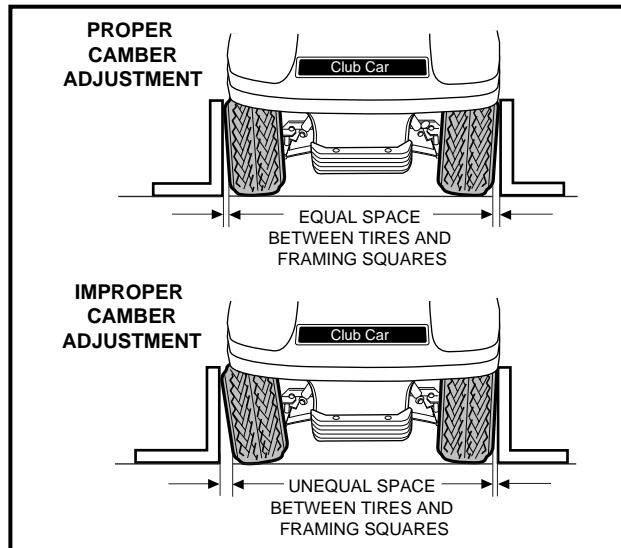
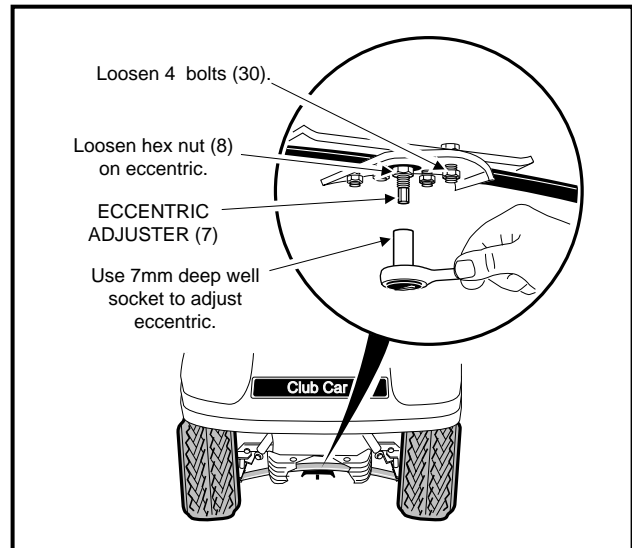
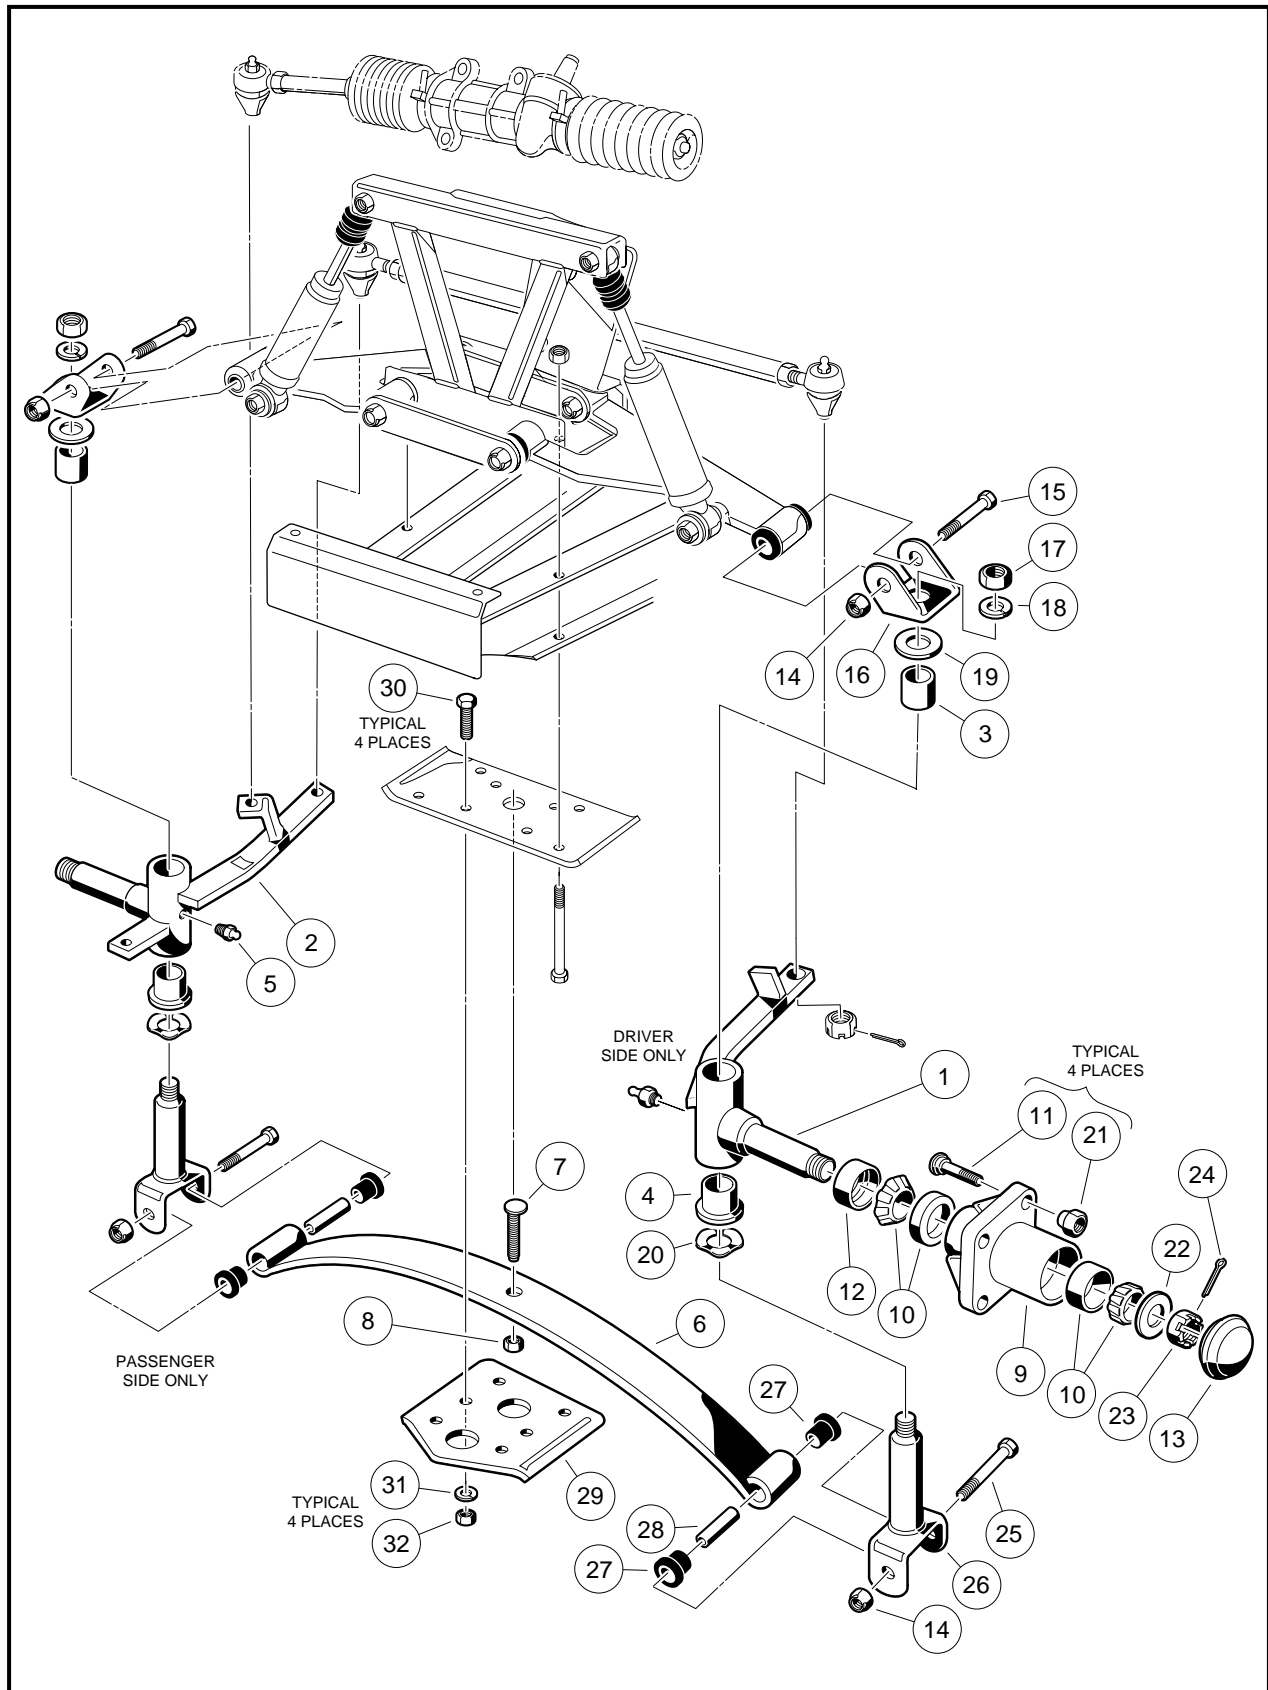
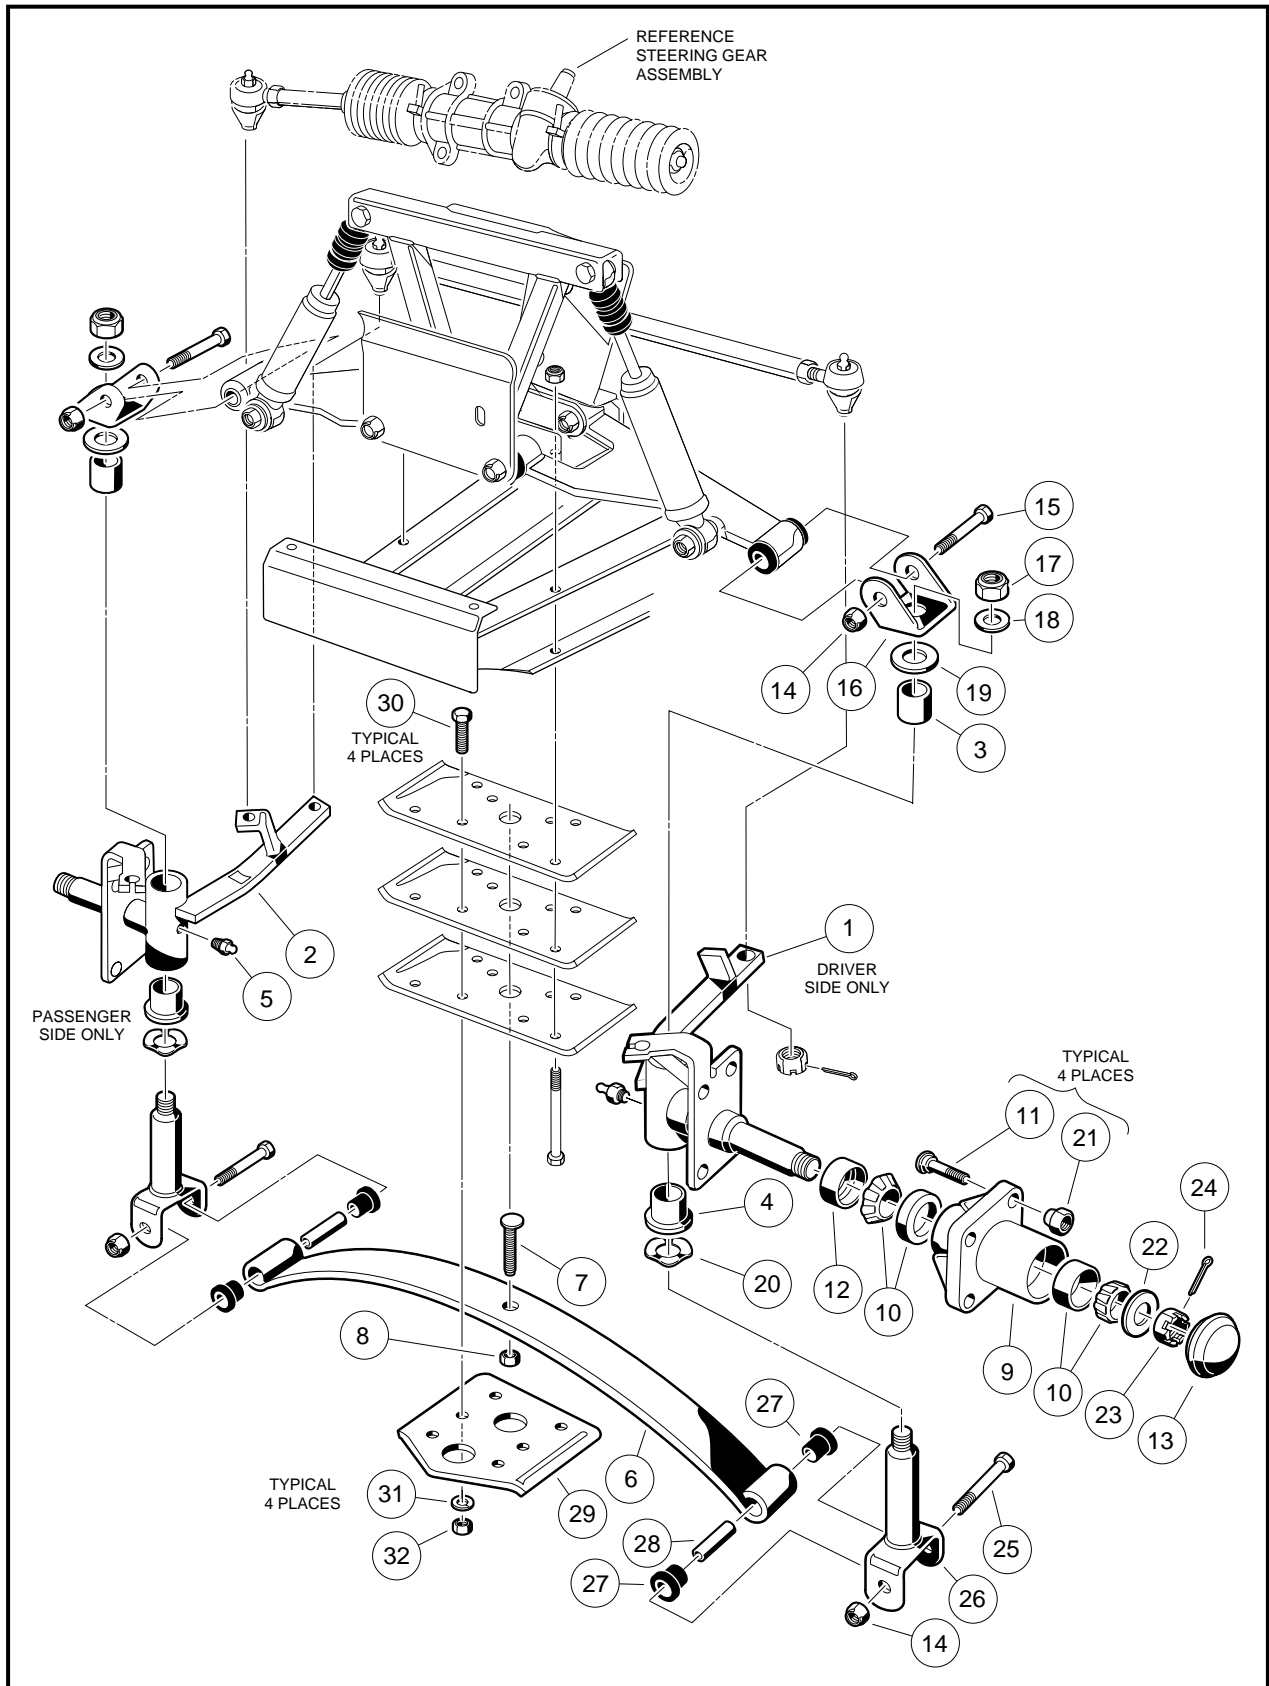

Figure 7-16 Check Camber
Figure 7-17 Adjust Camber
Figure 7-22 Two-Wheel Brake Vehicle – Lower Portion
Figure 7-24 Four-Wheel Brake – Lower Portion
1. Check each front wheel with a framing square. At the floor (or ground), there should be an equal amount of space between each tire and the framing square **(Figure 7-16, Page 7-15)**.
2. Loosen (do not remove) the four bolts (30) that secure the leaf spring (6) to the bottom spring plate (29) **(Figure 7-22, Page 7-18)**. **See also Figure 7-17, Page 7-15.**
3. Loosen (do not remove) the hex nut (8) on the adjustment eccentric (7) **(Figure 7-17, Page 7-15)** in the center of the spring. **See also Figure 7-22, Page 7-18.**
4. Use a 7 mm deep well socket to rotate the eccentric **(Figure 7-17, Page 7-15)**.
5. After adjusting camber, tighten the four spring retaining bolts (30) **(Figure 7-22, Page 7-18)** to 23 ft-lb (31 N·m). Then roll the vehicle forward one full tire revolution and recheck the camber. **See also Figure 7-16, Page 7-15.**
6. Tighten the hex nut (8) on the adjustment eccentric (7) to 10 ft-lb (13.5 N·m) **(Figure 7-22, Page 7-18)** **See also Figure 7-17, Page 7-15.**
3. Remove the nuts (14) and bolts (25) from the bottom of each king pin (26) **(Figure 7-22, Page 7-18)**.
4. Remove the four bolts (30), four nuts (32), four lock washers (31), and bottom spring plate (29) **(Figure 7-22, Page 7-18)**.
5. Remove tapered leaf spring (6) **(Figure 7-22, Page 7-18)**.
6. Check the condition of the urethane bushings (27) and steel sleeves (28) **(Figure 7-22, Page 7-18)**. Replace any that are worn or damaged.
1. Install urethane bushings (27) and steel bushings (28) into leaf spring eyes **(Figure 7-22, Page 7-18)**.
2. Install tapered leaf spring (6), bottom spring plate (29), four bolts (30), four lock washers (31), and four nuts (32) **(Figure 7-17, Page 7-17)**. Using a criss-cross pattern sequence, tighten bolts to 23 ft-lb (31 N·m).
3. Install spring in king pins (26) with bolts (25) and nuts (14) **(Figure 7-22, Page 7-18)**. Tighten to 17 ft-lb (23 N·m).
4. Remove the nut (17) and lock washer (18) from the top of the kingpin (26) **(Figure 7-22, Page 7-18)**.
5. Raise the upper clevis (16) from the kingpin **(Figure 7-22, Page 7-18)**.
6. Remove the thrust washer (19) **(Figure 7-22, Page 7-18)**.
7. Slide the spindle off the kingpin (26) **(Figure 7-22, Page 7-18)**.
8. Remove the wave washer (20) and inspect it (**Figure 7-22, Page 7-18**). If the washer is broken or has a wave bottom to wave crest height dimension of less than .040 inch (0.10 cm), it must be replaced.
9. Remove bolt (25) and nut (14) from bottom of kingpin (26) (**Figure 7-22, Page 7-18**) and remove kingpin.
11. Inspect the bushings (3 and 4) (**Figure 7-22, Page 7-18 or Figure 7-24, Page 7-21**). If the bushings are worn or damaged, remove them and press in new ones. **See following NOTE.**
2. Install the kingpin (26) over the leaf spring eye. Insert the bolt (25) and install the nut (14) (**Figure 7-24, Page 7-21**). Tighten the bolt to 17 ft-lb (23 N·m).
3. Install the wave washer (20) (**Figure 7-24, Page 7-21**).
4. Install the steering spindle on the kingpin. Then install the thrust washer (19), upper plate clevis (16), lock washer (18), and nut (17). Tighten the nut to 40 ft-lb (54.2 N·m) (**Figure 7-22, Page 7-18**).